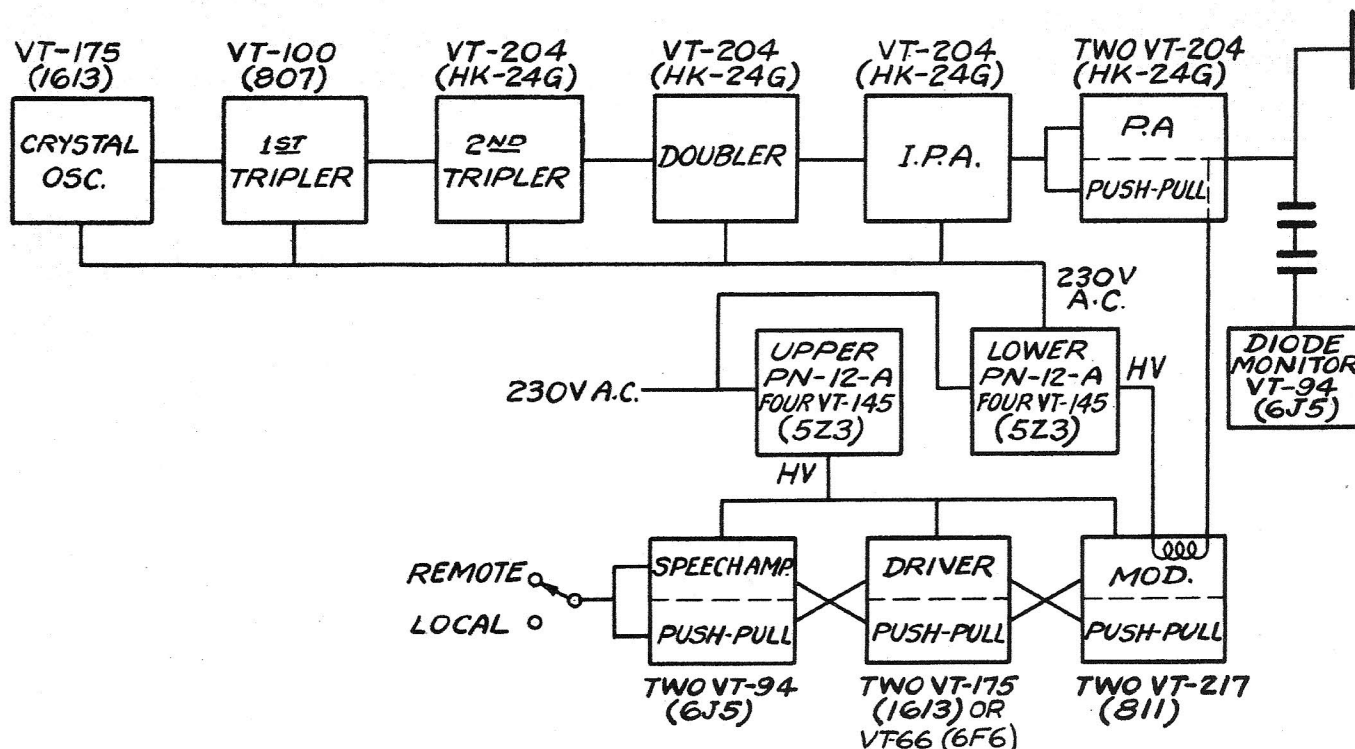

Figure 19 — Radio Transmitter BC-640-A, and BC-640-B, Block Diagram
f. **POWER CONTROL PANEL PN-13-A.**—This controls the line voltage to the transmitter. It consists of line fuses, main switch, voltmeter to measure the voltage to transmitter, and a variable-ratio transformer, which can be controlled from the front of the panel. A 110-125 or 220-250 volts a-c supply can be used by changing the line terminal connections at the rear of the panel. The voltage supplied to the rest of the transmitter from the power control panel is set at 230 volts. Figure 19 shows a block diagram of the transmitter.
- (1) Master tuning charts for Amplifier Panel PN-8-A.
- (2) Master tuning charts for Oscillator Panel PN-9-A.
- (3) Blank front panel tuning charts for Amplifier Panel PN-8-A.
- (4) Blank front panel tuning charts for Oscillator Panel PN-9-A.
- (5) Overall schematic drawing and parts list.